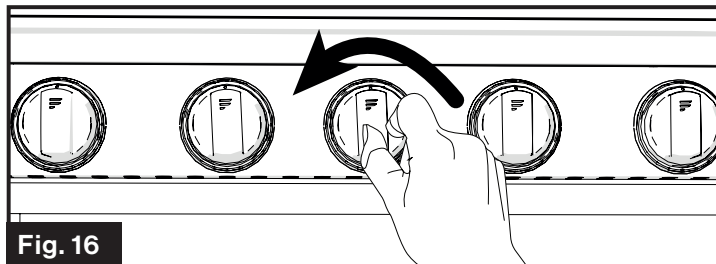

Fig. 16
1. Turn the appropriate burner control knob counterclockwise to the  position. (Fig. 16)